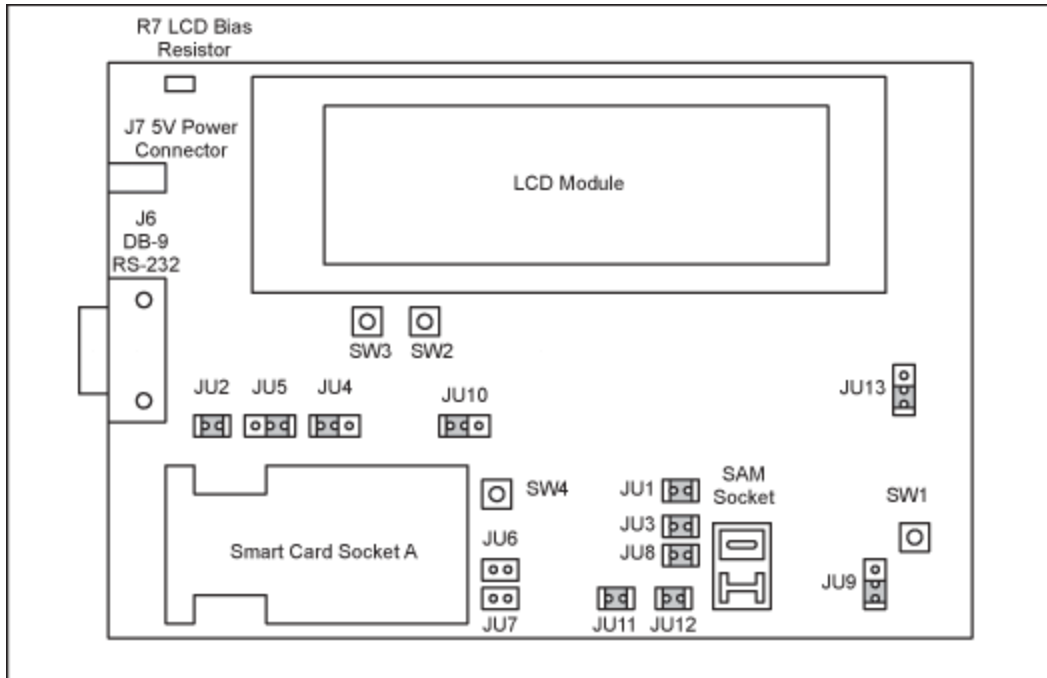

Figure 2. DS8007 board jumper locations.
1. Connect jumpers 1 through 13 as shown in **Figure 2** and further described in **Table 1**.
To demonstrate one of the DS8007 EV kit's very useful features, we will now create an application program that will display a message on the 2-line, 20-character Liquid Crystal Display (LCD). Before beginning, however, we must set the LCD contrast adjustment so that it displays the message appropriately when the program is executed. First, apply power to the board; the LCD should be blank. Locate variable resistor R7 on the board (see Figure 2 above), and using a small screwdriver, adjust the resistor until individual 5 x 7 dot blocks appear in the character positions of the display. Slowly adjust R7 until the blocks just disappear. This sets the contrast of the LCD so that the characters will be visible, but spaces will not.